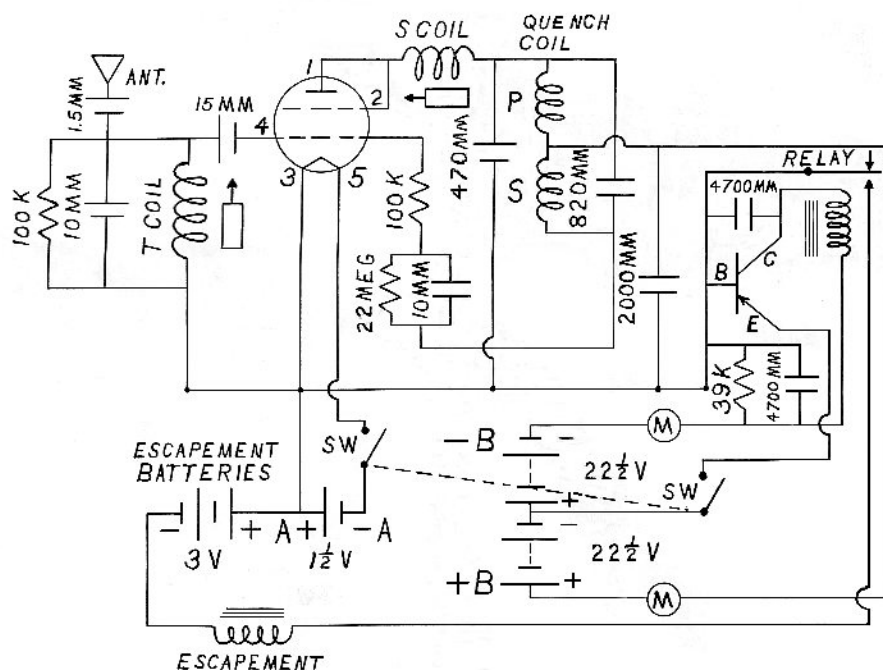

Fig 7
- 10.1 There follows very detailed, step-by-step instructions of the complete adjusting procedure. After these are completed and understood, only one adjustment need ever be made regularly. This adjustment is described in Par. 10.8. A complete schematic diagram (Fig. 7) of the receiver set, batteries, and escapement is also included for the modeler who wishes to better understand the receiver's operation.